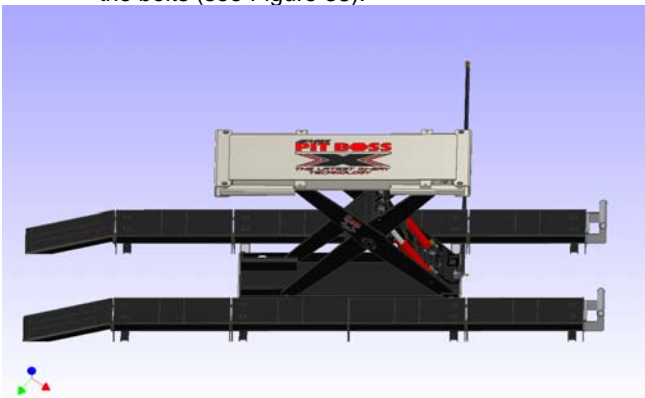

Figure 38
4. Lock the remaining two tread ways on the opposite end as the wheel stops. Place the ramps with the slots over the bolts (see Figure 38).